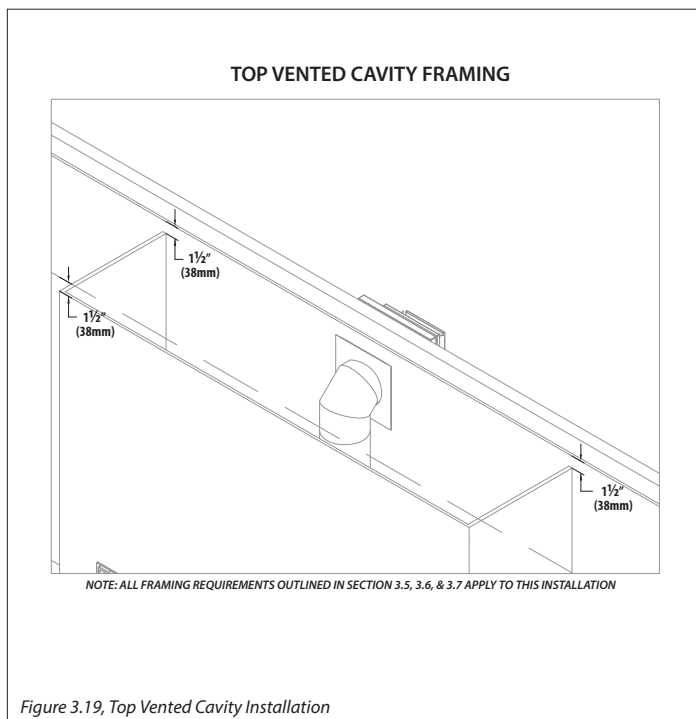

Figure 3.19, Top Vented Cavity Installation
- Figure 3.19 shows the fireplace chamber ending 1-1/2" from the ceiling on all three sides with the entire top of the chamber 1-1/2" from the ceiling.